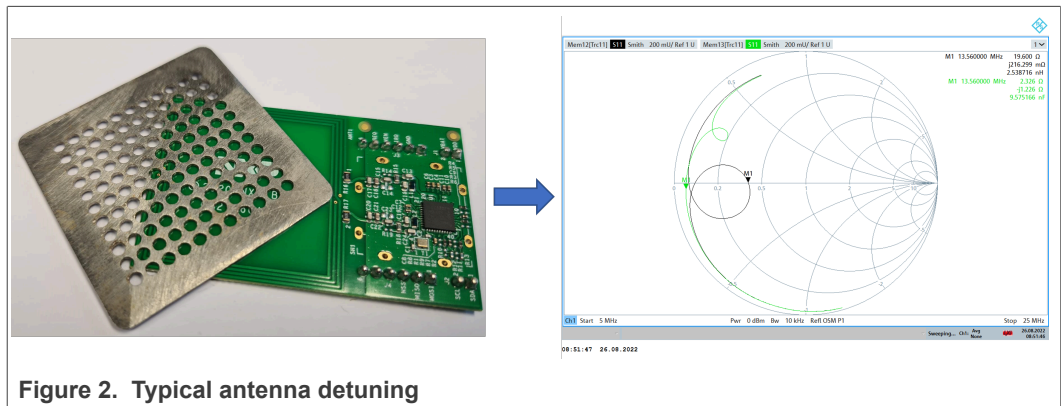

Figure 2. Typical antenna detuning
Figure 2 shows a typical **symmetrical** antenna tuning impedance on free-air (black trace) and under a loading condition (green trace). Due to this loading (for example, a piece of metal) the impedance decreases to values  $< 10 \Omega$ . Without a proper DPC, the  $I_{TVDD}$  limit and also the maximum ISO/NFC forum power transfer limit would be exceeded.
1. The load (card or smart device) decreases the impedance as shown in Figure 2